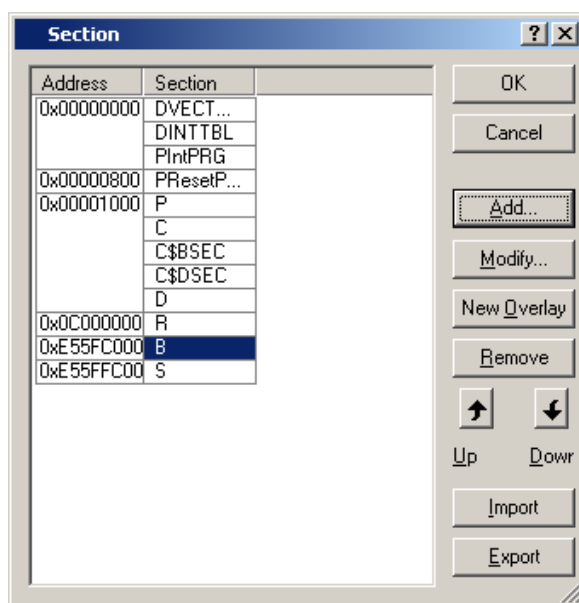

Figure 5.3.16 Change Section (2/2)
(2) In the [Section] dialog box, set the section B to the on-chip RAM area shown in Figure 5.3.16.